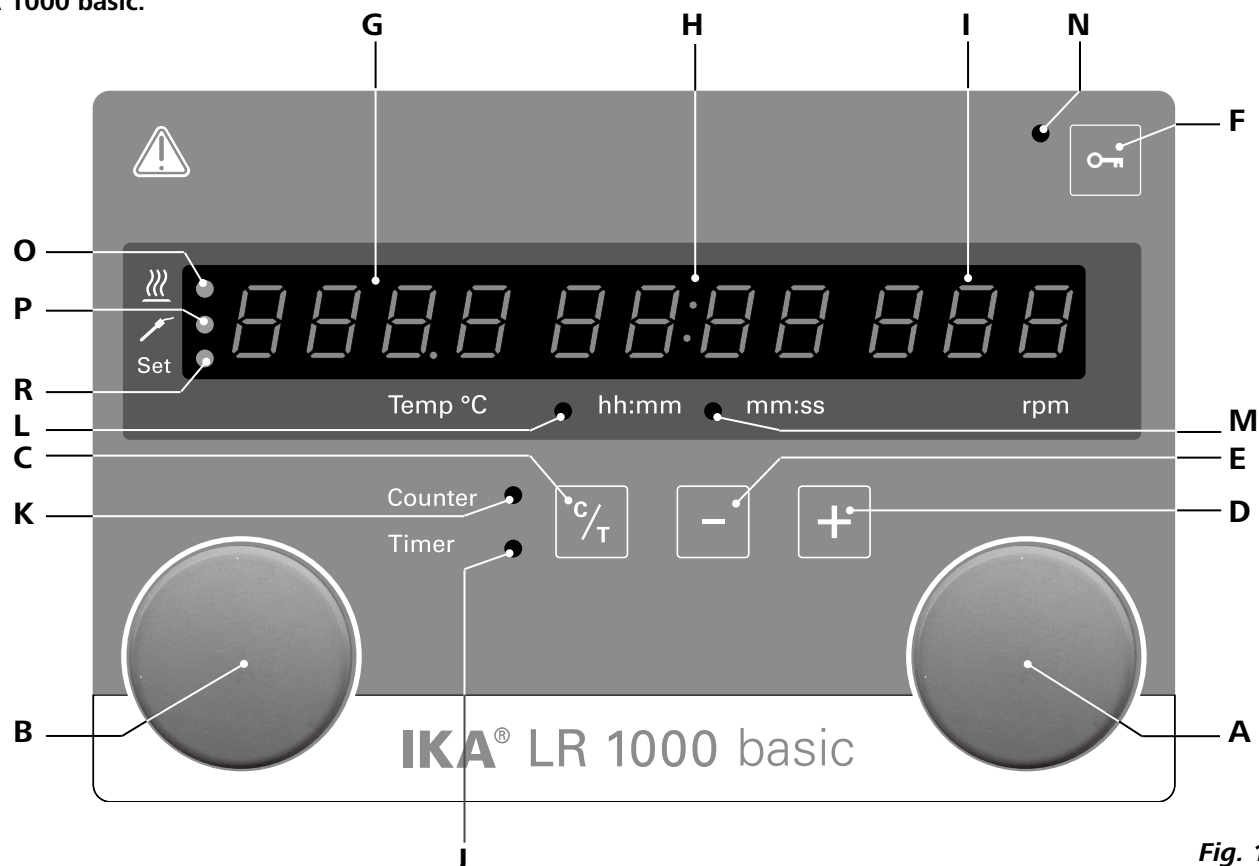

Fig. 11
Turn the rotating/pressing knob (A), the speed value can be adjusted. Press right rotating/pressing knob (A, see Fig. 11) to activate the stirring function.
Turn the rotating/pressing knob (B), the temperature value can be adjusted. Press left rotating/pressing knob (B, see Fig. 11) to activate the heating function.
The heating function can be started or stopped by pressing the left rotating/pressing knob (B). Then, the target temperature value and the actual temperature value will appear on display (G, see Fig. 11) alternately. When the set temperature value is display, LED (R, see Fig. 11) lights up. The heating temperature value can be adjusted by turning the left rotating/pressing knob (B).
When the operating time is less than 1 hour, the counter work with minute/second (mm:ss) mode and LED (M, see Fig. 11) lights.
If the operating time exceeds 1 hour, the display switches from minute/second mode to hour/minute (hh:mm) mode. LED (L, see Fig. 11) lights indicate the status.
The Time (+) button (D, see Fig. 11) or Time (-) button (D, see Fig. 11) is used to adjust the heating time. If the timer value is more than 1 hour, the display switch to hour/minute (hh:mm) mode from minute/second (mm:ss) mode. The LED (L) lights.
The "Counter" function could be switch to "Timer" function by pressing the Counter/Timer key (C, see Fig. 11). The timer LED (J, see Fig. 11) indicates the "Timer" function is activated.
Press the Counter/Timer key (C) again, the "Counter" function will be activated and counter LED (K, see Fig. 11) lights.